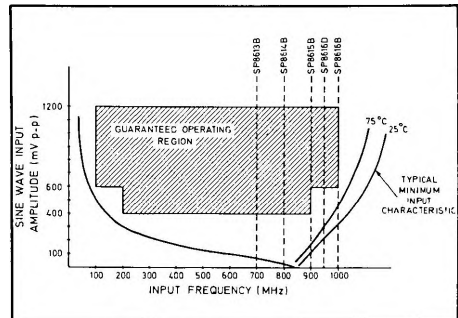

Fig. 3 Specified range of operation
- Input Voltage Range 400mV to 1.2V (see Fig. 3)